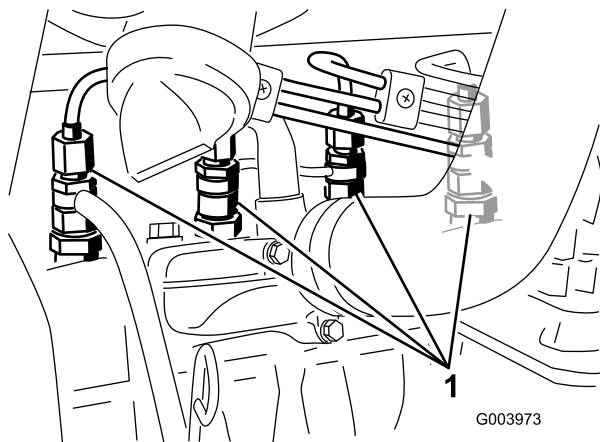

Figure 65
1. Loosen the pipe connection to the No. 1 nozzle and holder assembly (Figure 65).